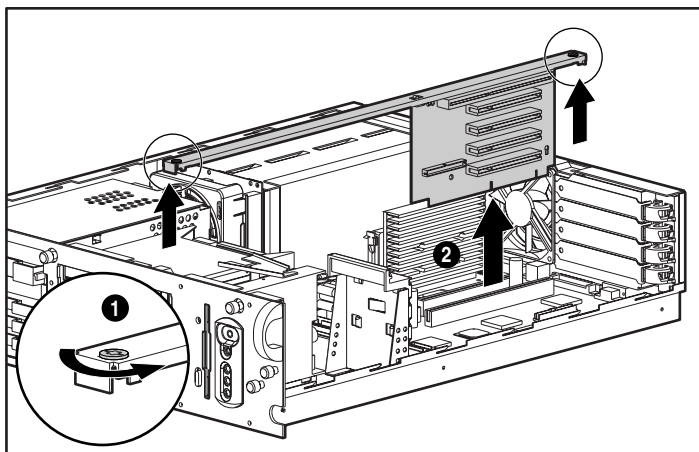

Figure 3-15. Removing the riser board and riser board brace
6. Install the new riser board and riser board brace assembly. When installing this assembly, refer to figure 3-15 for proper alignment.